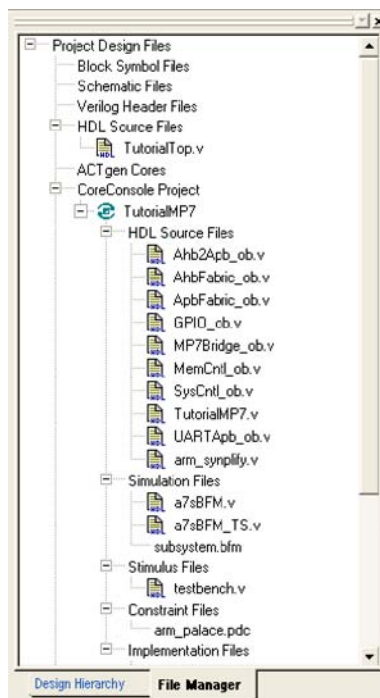

Figure 5-22. Libero IDE Design File Manager
2. Click on the **Design Hierarchy** tab located at the bottom of the Libero IDE Design File Manager, as shown in Figure 5-22.